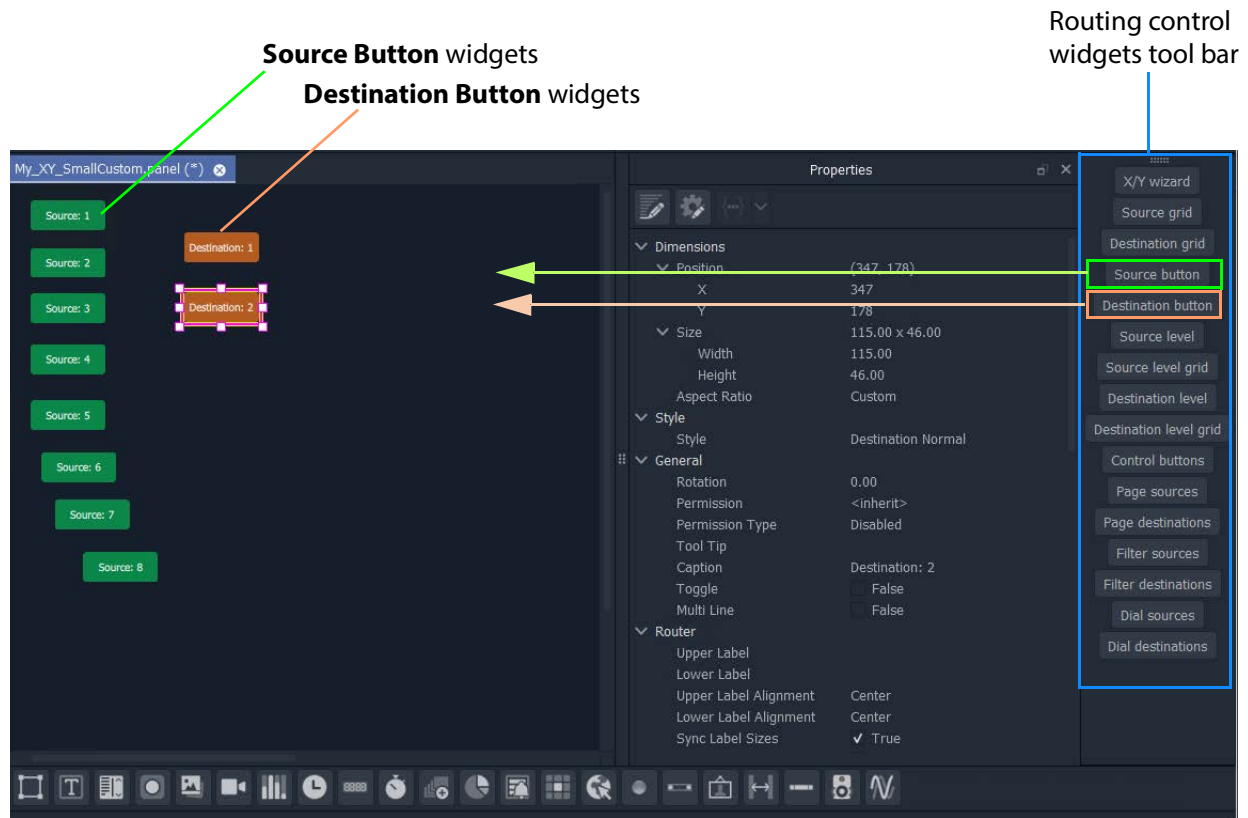

Fig. 13-41: Adding Source and Destination Buttons
- 1 Add 8 **Source Button** widgets from the Routing widget tool bar (see Figure 13-41). (Click on 'Source Button' button on the tool bar and drag on button widgets.)